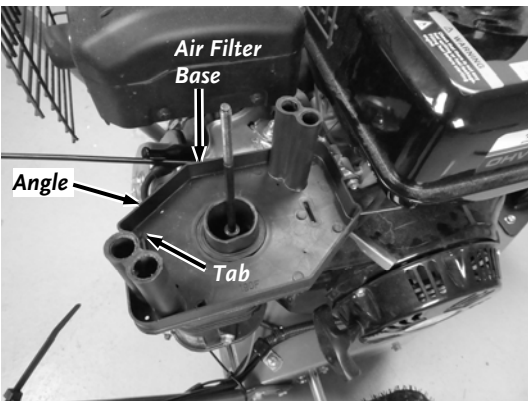

Figure 26
3. Pull up on the Filter Base to remove it from the Engine (**Figure 26**).